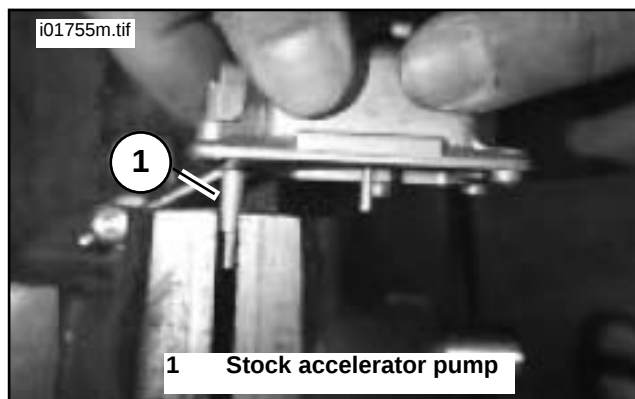

Figure 4. Stock Float Bowl and Accelerator Pump in Vise
1. See Figure 4 and Service Parts Illustration. With the carburetor float bowl removed, using a vise, clamp onto the stock accelerator pump nozzle. Remove it by twisting and pulling it out of the float bowl. Remove the stock check valve.